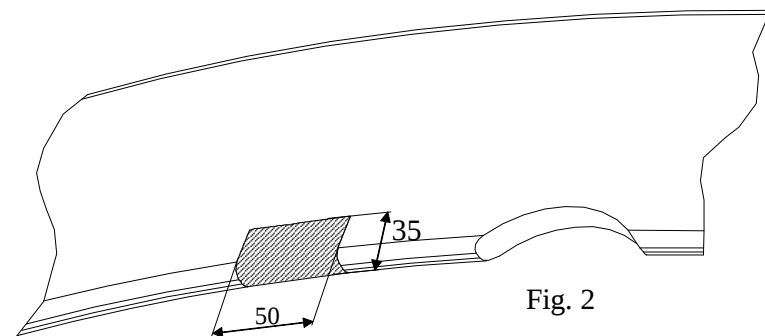

Fig. 2
- 2) Cut out fragment of the bumper in his bottom part, in axis – see fig. 2).
- 3) To left chassis member fix element pos. 4 through holes **A** using bolts M12x40mm(pos. 7) - loosely, next through technological hole put nut